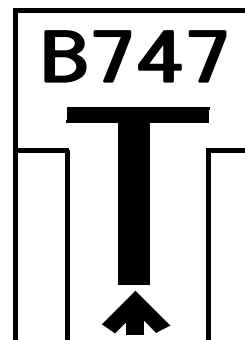

Fig.2
- (2) When the laser scanner detects the approaching aircraft, the display screen will indicate the aircraft type, a "T" bar, and a lead-in upward arrow in yellow. (Fig.2)